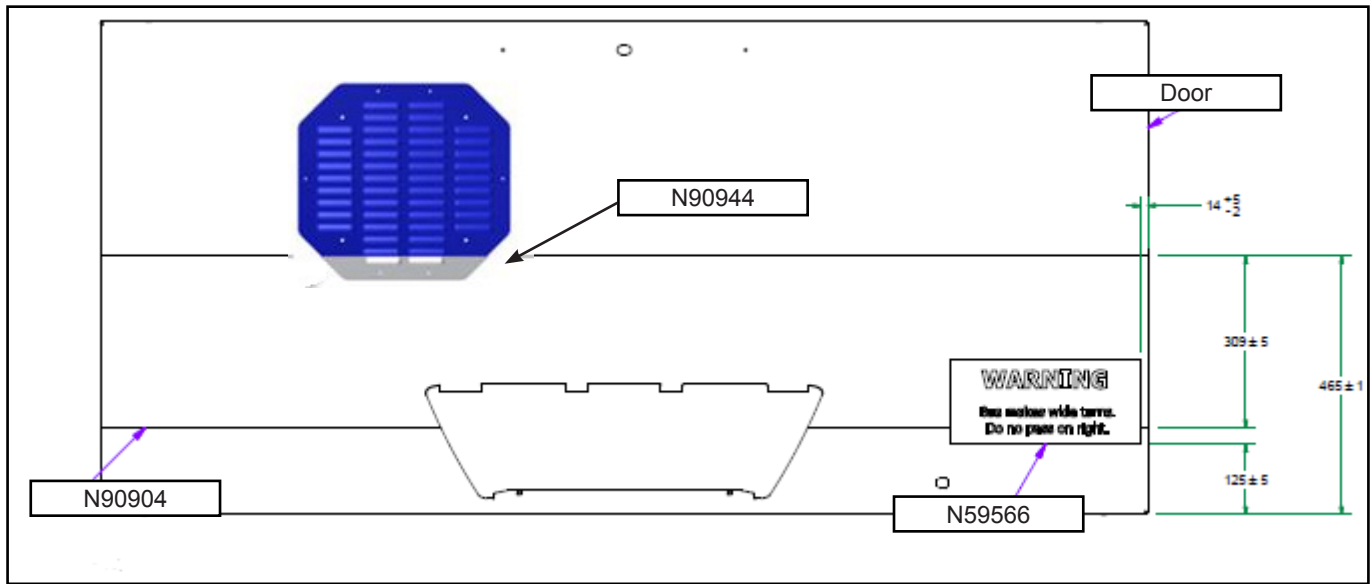

Figure 2 - Installation of Decals on Engine Door
- 1.5. Install the decal N59566 in the position shown on the engine door (see Figure 2).
- 1.6. Install temporarily the grill louver (opening must be pointing down on the outside) to determine the position of N90944 and install the decal (see figure 2).